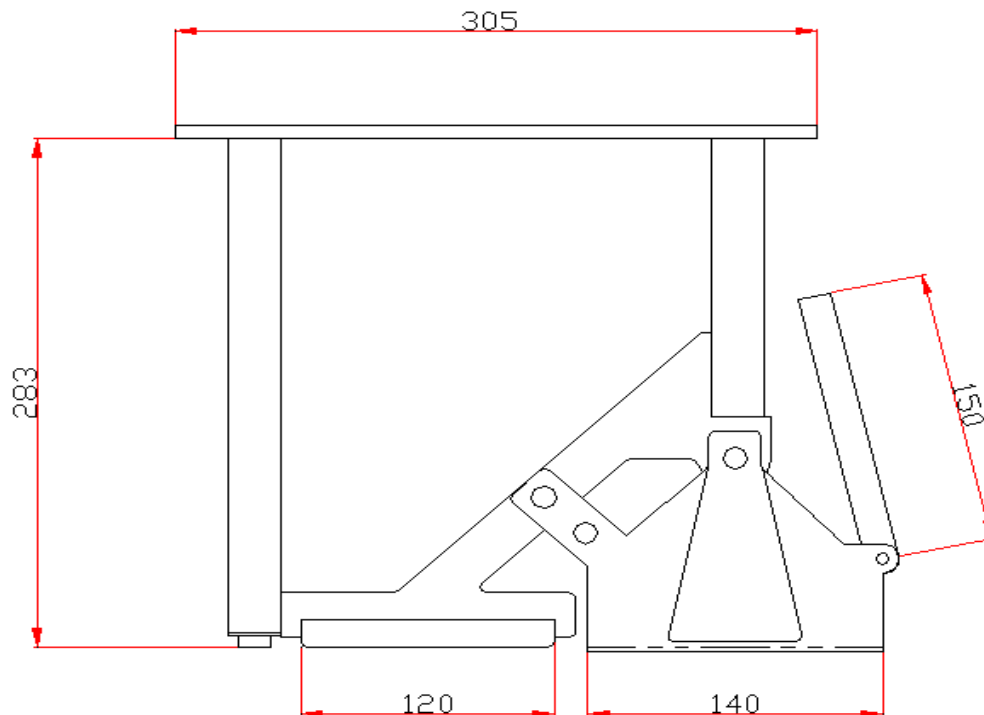

Figure 3 - A typical NMI Millennium Leg
7. In the case of a seat being attached to an NMI system, the seat must use the combination of the NMI track system, and the NMI Millenium Leg as shown in Figure 3.